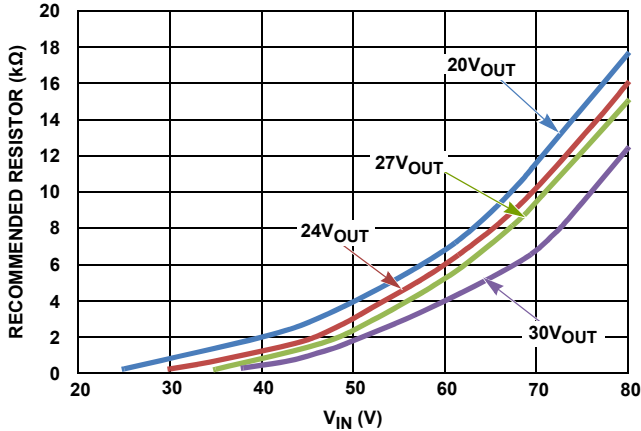
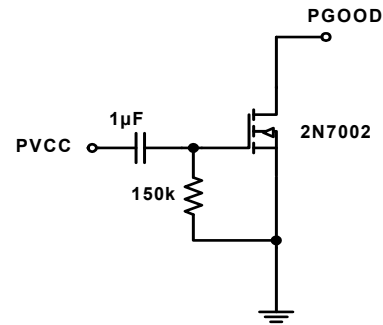

FIGURE 23. RECOMMENDED EXTERNAL RESISTOR VALUE FROM BOOT TO PVIN
FIGURE 25. PGOOD DELAY CIRCUIT
The internal bootstrap diode connected to the PVCC pin provides charge for the internal bootstrap capacitor. For above  $12V_{OUT}$  applications, a resistor connecting between BOOT pin and  $V_{IN}$  pin is recommended for certain conditions. Refer to Table 3. This resistor provides additional bootstrap charge introduced from  $V_{IN}$ , which can ensure the gate drive circuit functions properly at very light load. See Figure 23 for the recommended external resistor values at  $20V_{OUT}$ ,  $24V_{OUT}$ ,  $27V_{OUT}$ , and  $30V_{OUT}$  conditions. A minimum 0.25W power rating is recommended for this resistor.
For  $>12V_{OUT}$  applications where  $V_{IN}$  power-up/down (module self enable/disable) is required and PGOOD signal is utilized, a PGOOD delay circuit and a  $1k\Omega$ , 1W rating dummy load resistor are recommended. The PGOOD delay circuit is shown in Figure 25. Note when the dummy load resistor is used, the resistor between  $V_{IN}$  and BOOT (Figure 23) is no longer required. During  $V_{IN}$  power-up (module self enable) for  $>12V_{OUT}$  applications at very light load current, without such a delay circuit,  $V_{OUT}$  may have a drop after initially reaching the target due to the lack of bootstrap charge. With such a delay circuit, the PGOOD signal can be delayed for 250ms. For applications of  $\leq 12V_{OUT}$ , the PGOOD delay circuit is not required.
- Refer to Figure 23 for  $V_{IN}$ -BOOT resistor ( $R_{BOOT}$ ) value.